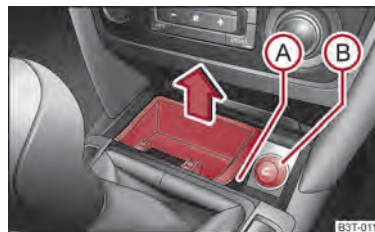
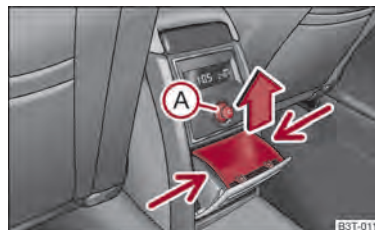

Fig. 89 Centre console: Front ashtray
Fig. 90 Centre console: Rear ashtray
- Grasp the ashtray insert at the point (A) ⇒ fig. 89 and take it out in direction of arrow.
- Grasp the insert at the points marked with the arrows ⇒ fig. 90 and take it out.
- Press the button of the lighter (A) ⇒ fig. 90 or (B) ⇒ fig. 89.